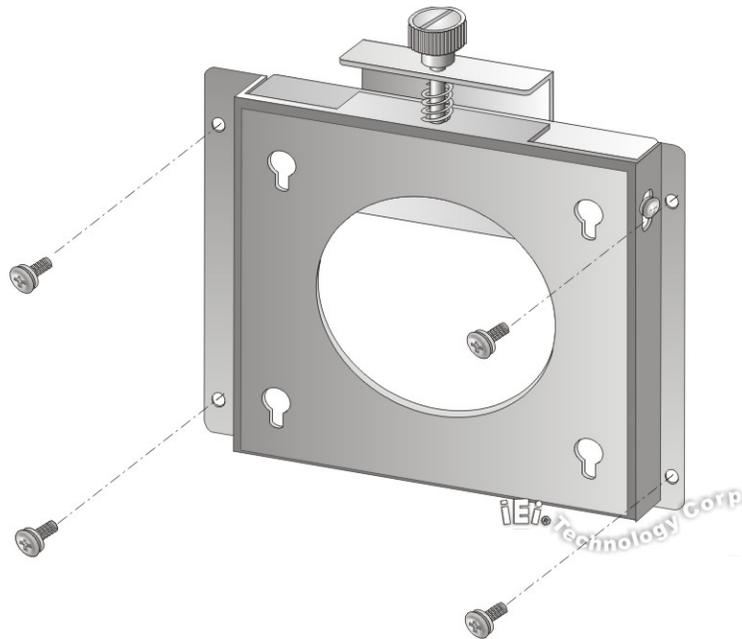

Figure 4-6: Wall-mounting Bracket
- Step 5:** Secure the mounting-bracket to the wall by inserting the retention screws into the four pilot holes and tightening them (**Figure 4-6**).